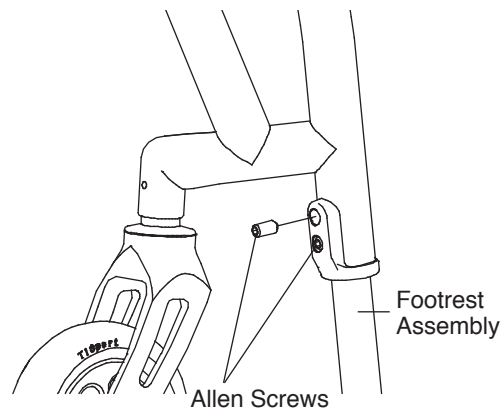

Figure 97
3. Loosen, but do not remove, the Allen Screws on the footrest clamp only on the side of the chair with the floating caster. See Figures 97 and 98.